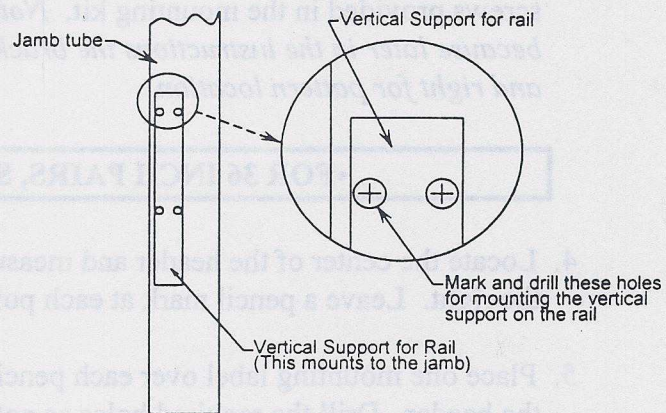

Figure 6
- C. Drill two 25/64 inch holes and install two 1/4-20 rivnuts. Drill a 3/8 inch diameter access hole in the jamb tubes to accommodate the wires from the holding beams (See Figure 6). Temporarily mount the the rail for beam placement.